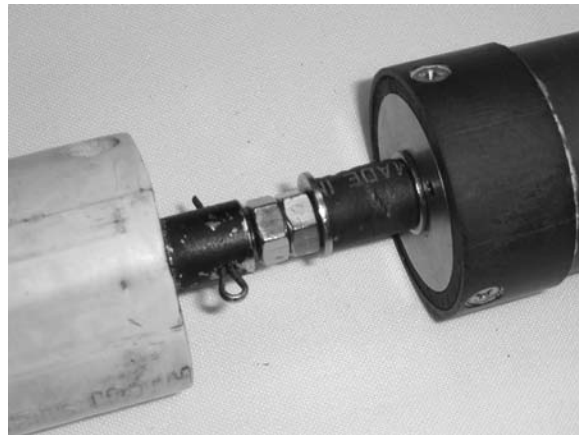
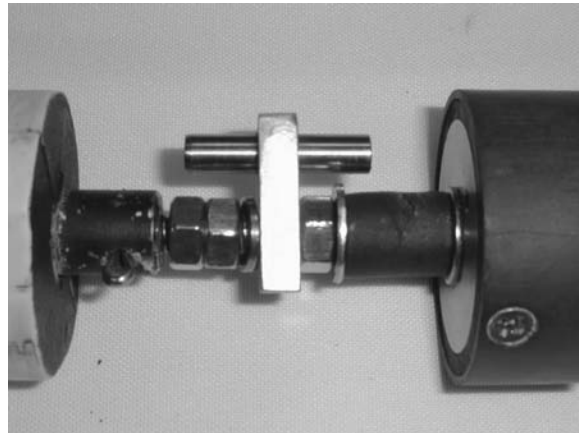

Figure 1: Before modification
Figure 2: After modification
- (10) The threaded shaft is secured to the base of the coil form by a rubber bushing, flat washer, and two nuts. Remove only the outer nut. (Fig. 1)
- (11) Place the magnet bracket onto the threaded shaft against the existing nut.
- (12) Place a split washer on the threaded shaft.
- (13) Screw a nut on the shaft and tighten it very tight, until the split washer is compressed. Screw on the second supplied nut and tighten it very tight. (Fig 2). Install the first nut and tighten securely *before* installing the second nut.